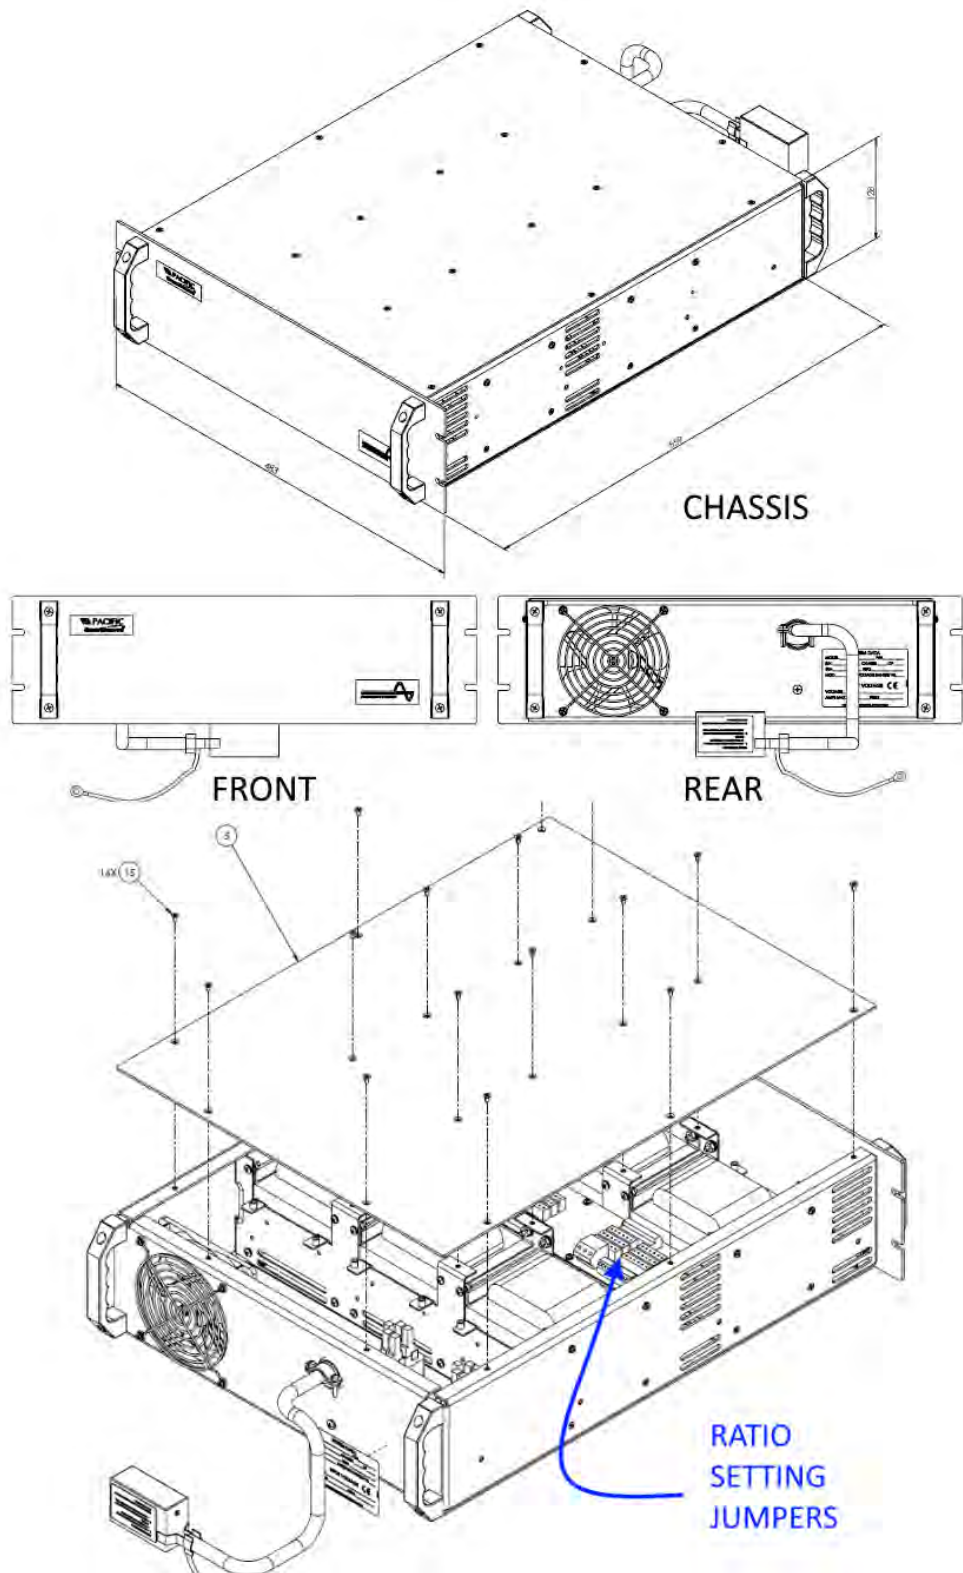
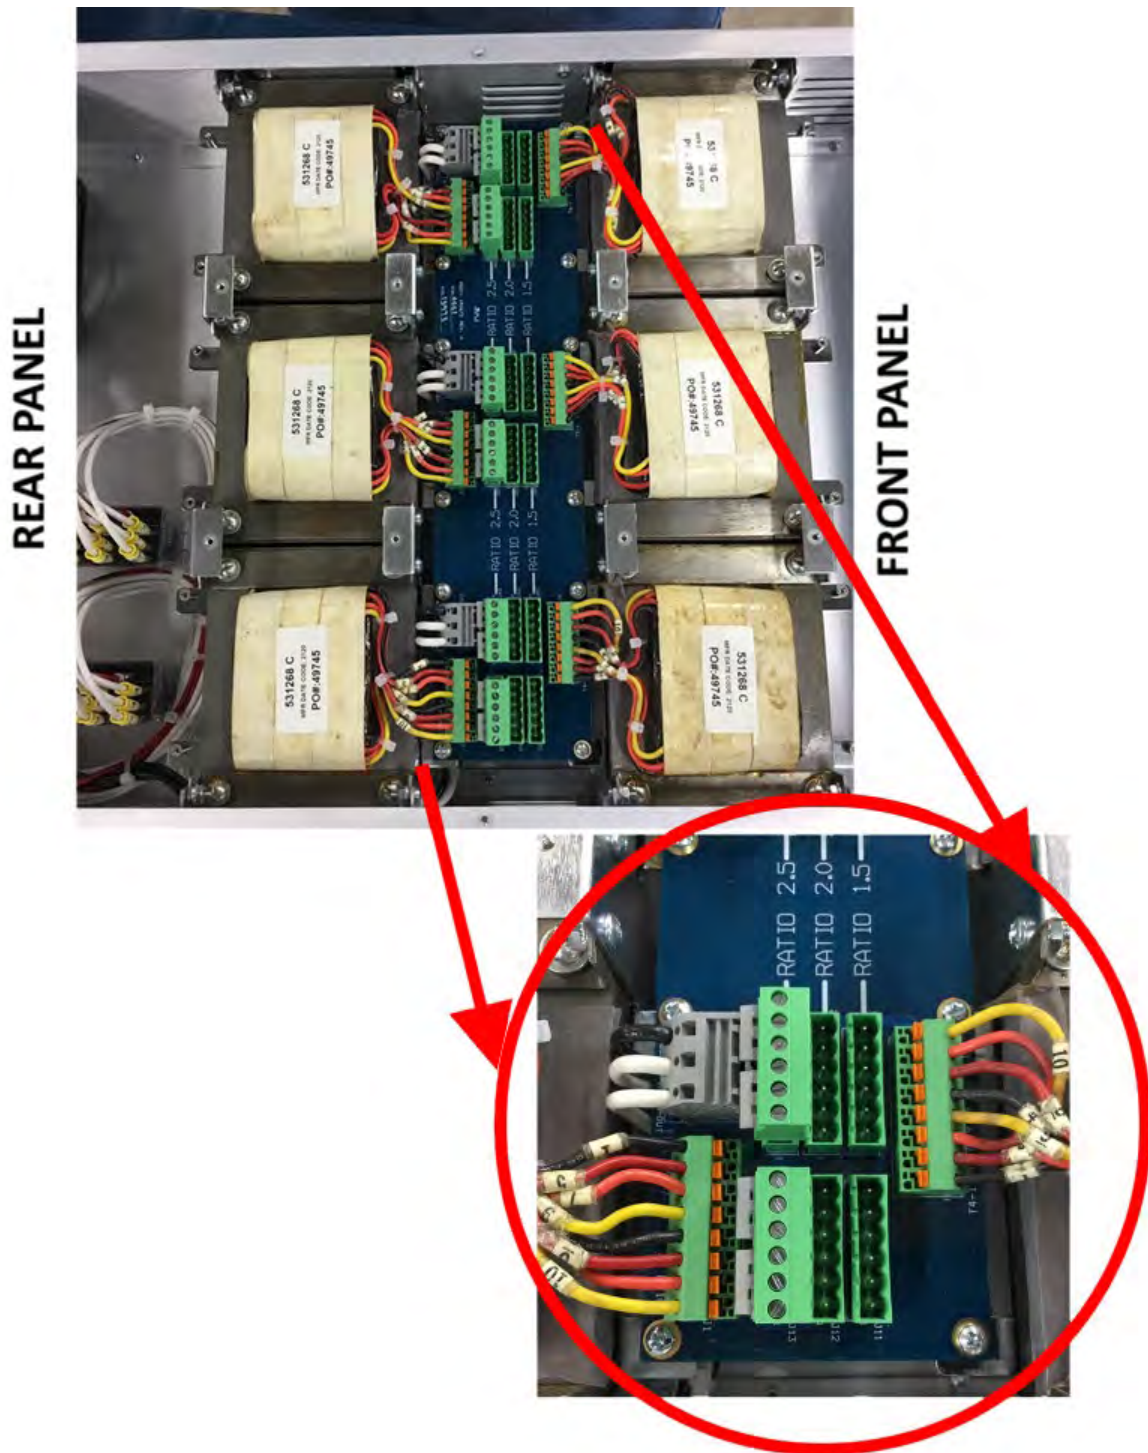

Figure 5-9: External Output Transformer Module Chassis Drawing Load Connections
Figure 5-10: External Output Transformer Module Configuration Jumpers
For all 5U rack height LSX models, the magnetics module consists of a separate 3U rack mount chassis that contains the transformers and connects to the power source. The Magnetics Module (Assembly No. 134780) is required for the VR1.5, VR2.0, and VR2.5. Refer to Figure 5-9 on page 82.
3. Move all jumpers to the desired transformer ratio position. All jumpers must be in the same row. The ratio is shown on the circuit board. Refer to Figure 5-10 on page 83.
The wiring requirements for a low range (0-132 Vac, 0-135 Vac or 0-150 Vac) single phase load are shown in Figure 5-10.
used in addition to the wiring described above. Refer to Figure 5-9 and Figure 5-10 for connection details.
The wiring requirements for three phase loads (WYE or DELTA) are shown in Figure 5-9.
Figure 5-10 shows the external sense wiring for 1, 2, and 3 ϕ systems. There is little or no current flowing through the External Sense metering lines. Standard 22 AWG, 600 Volt (0.050" or 1.27mm) control wire is recommended for this application. Twisting the External Sense wiring is recommended and, in some cases, can improve performance. In noisy environments, shielding may become necessary. If shielded cable is used, be sure to ground the shield at one end only, to prevent the possibility of creating a ground loop.